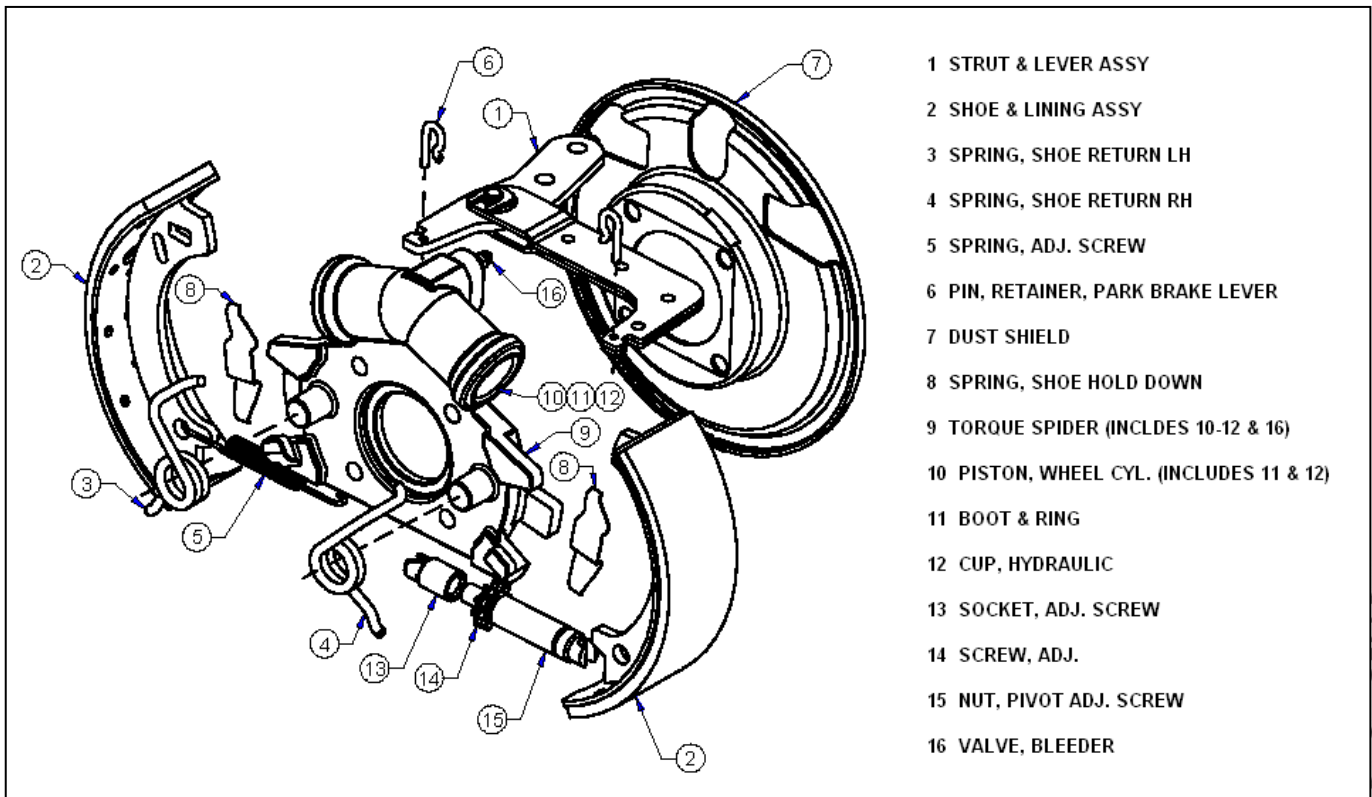

Figure 5-1 BC2 Driver Side
See Figures 5-1& 5-2 -Rear Hydraulic Brake Assembly.
- Refer to Figure 5-1 for reassembly
1. Install a length of appropriate size plastic tubing over the brake assembly bleeder valve (Figure 5-1).